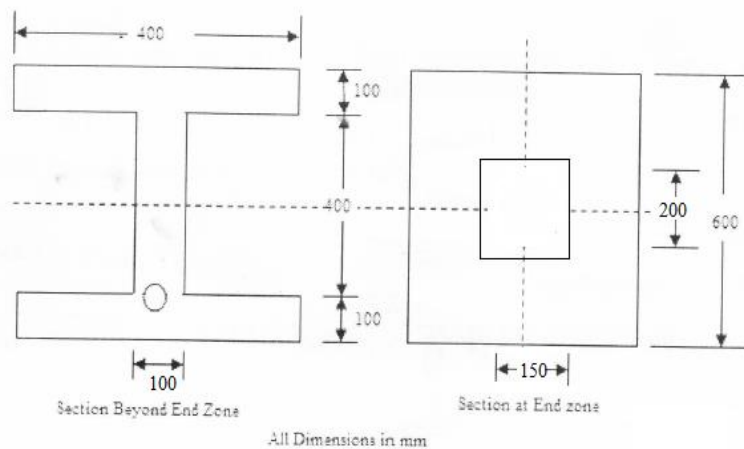

Figure 3
12. Design the bearing plate and the end zone reinforcement for the following bonded post-tensioned beam shown in figure 3. The strength of concrete at transfer ( $f_{ci}$ ) is  $50\text{N/mm}^2$ . A prestressing force of  $1055\text{kN}$  is applied by a single tendon symmetrically placed over a mild steel anchor of size  $150\text{mm} \times 200\text{mm}$ . Permissible bending stress for the bearing plate is  $165\text{N/mm}^2$ . There is no eccentricity of the tendon at the ends. Use Fe250 grade steel for reinforcement.